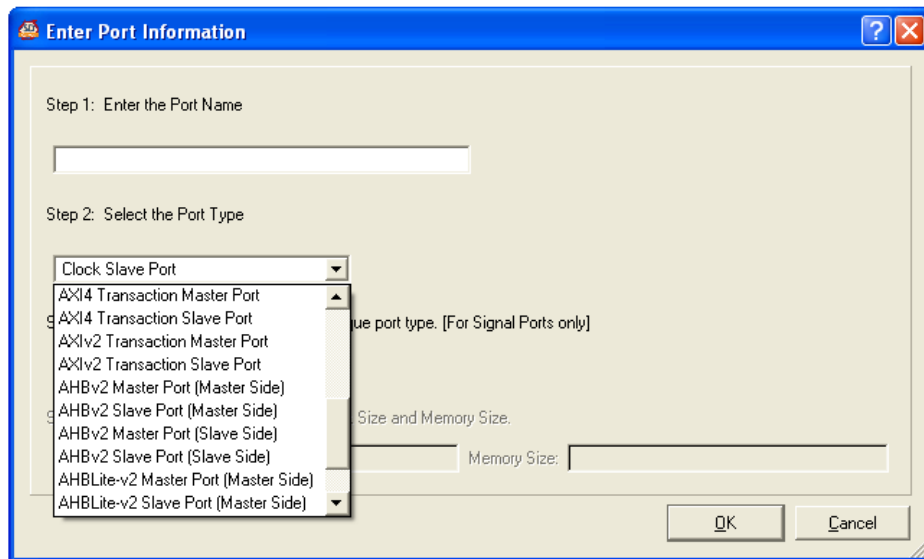

Figure 8-1 AXI Port Selection
2. Click **New** to create a new port, and select the desired AXI port type from the port type drop-down list, as shown in Figure 8-1: